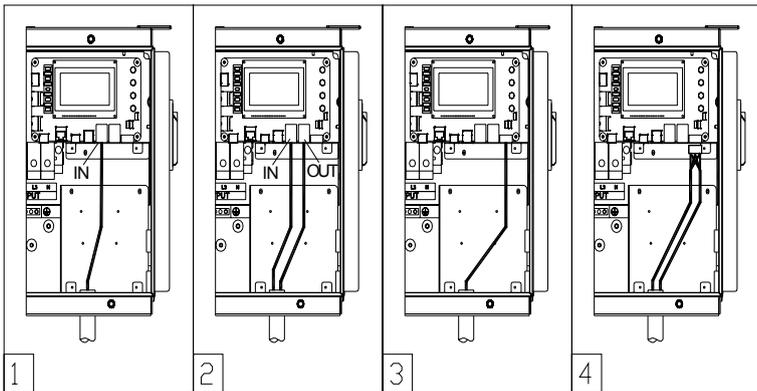

Figure 3-37 RS485 connection
a.) Put the communication cable through the conduits inside the wiring box, and crimp the cable as shown in Figure 3-37 and Figure 3-38.